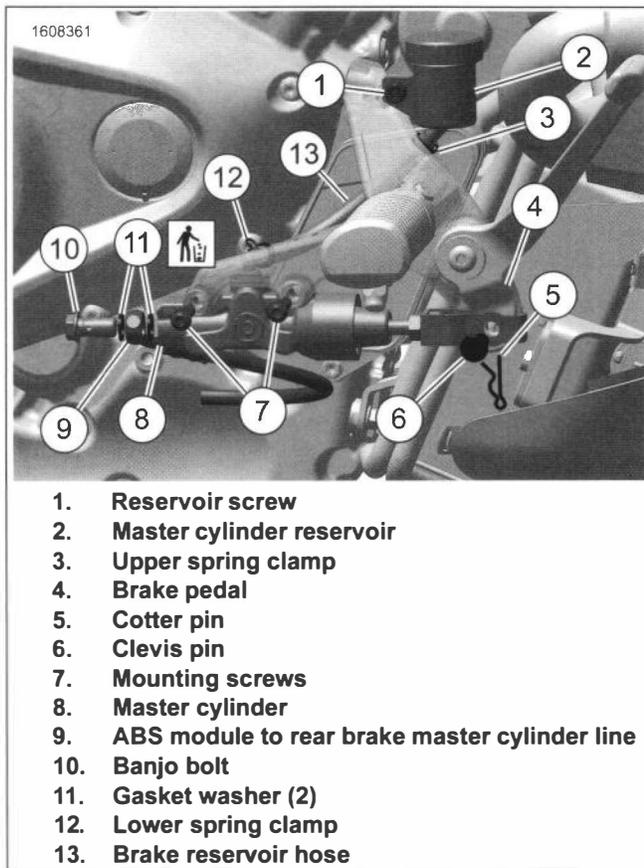

Figure 3-28. Rear Brake Master Cylinder
1. See Figure 3-28. **If replacing master cylinder:** Remove banjo bolt (10). Discard gasket washers (11).
- a. Discard cotter pin (5).
- b. Remove clevis pin (6) from brake pedal (9).
- c. Remove screws (7) and master cylinder (8).
- a. Reposition lower spring clamp (12).
- b. Remove brake reservoir hose (13).
- a. Reposition upper spring clamp (3).
1. See Figure 3-28. **If replacing master cylinder reservoir:** Install master cylinder reservoir.
- a. Install master cylinder reservoir (2).
- b. Install reservoir screw (1). Tighten.